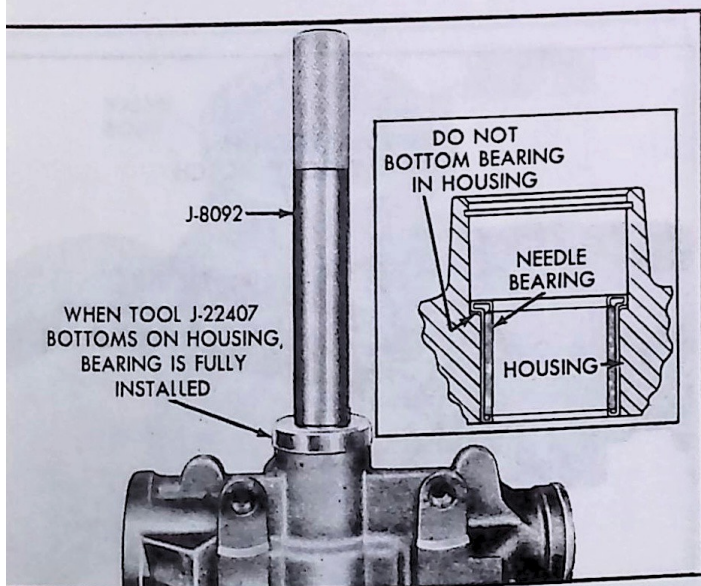

Fig. 51—Installing Pitman Shaft Bearing
1. If the pitman shaft needle bearing was removed, place bearing Installer Tool J-22407 onto Handle J-8092. Place needle bearing (shouldered end first) on to Tool J-22407. Press bearing into gear housing until Tool bottoms on housing. The bearing is now correctly positioned (fig. 51).